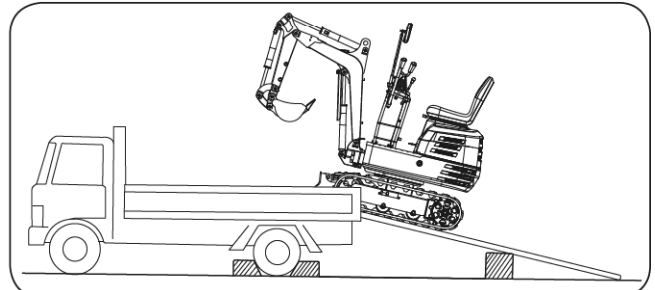

Figure 66
3. For additional safety, use blocks or struts under the ramps and the truck bed. (See Figure 66)